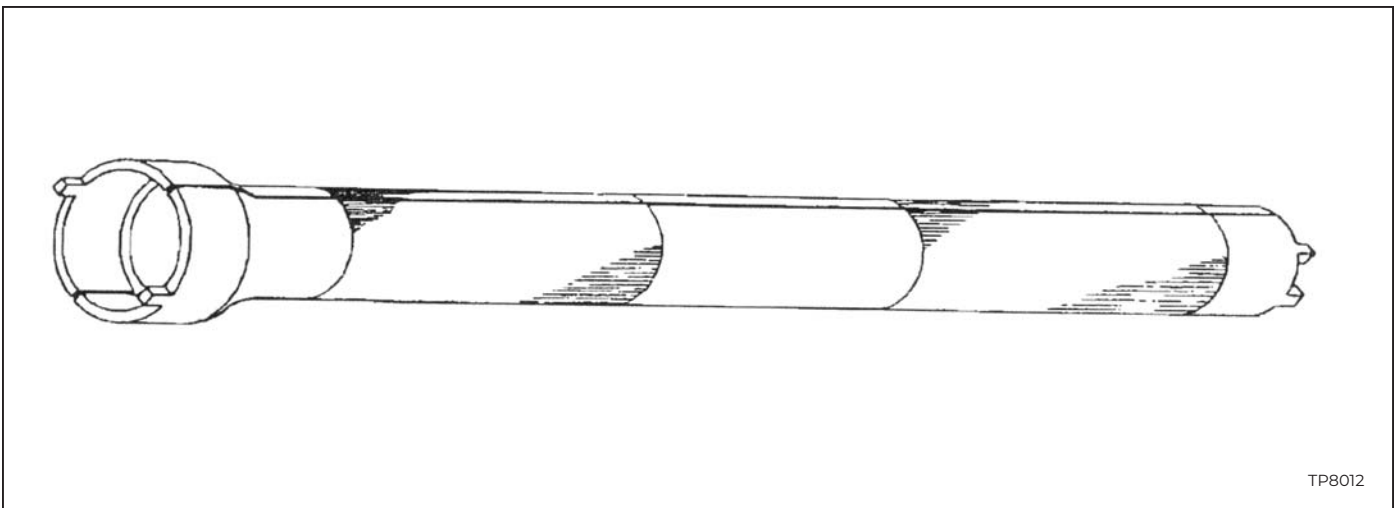

Figure 3.19 - Two-Piece Backlash Adjustment Tool
2. Insert the larger end of the two-piece backlash adjustment tool, shown in Figure 3.19, into the left side of the saddle.
4. Use the larger end of the two-piece backlash adjustment tool, shown in Figure 3.19, to loosen lock nut "R", Figure 3.22.